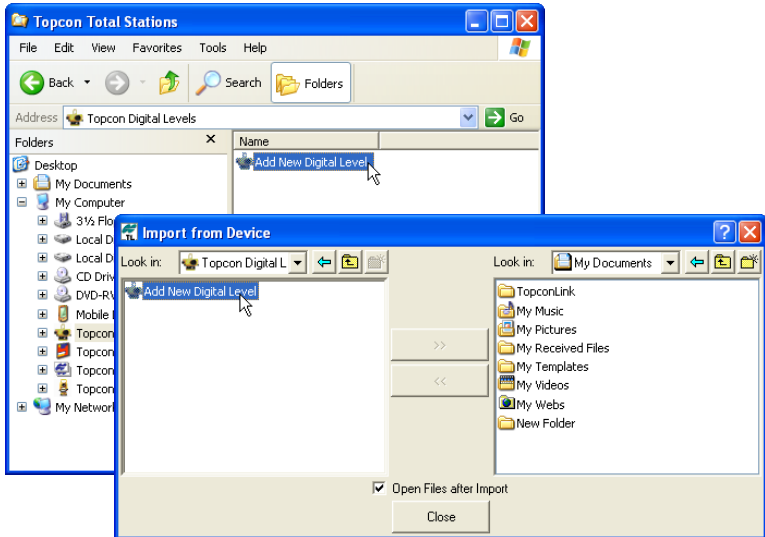

Figure 2-7. Add a New Digital Level
1. Navigate to the Digital Level device directory (Figure 2-7).
2. Double-click Add New Digital Level (Figure 2-7).
1. Navigate to the Memory Card device directory (Figure 2-7 on page 2-9).
2. Right-click the gray card icon and click Format (Figure 2-7 on page 2-9).
3. Click Format to format the flash card for access by Topcon programs (Figure 2-7 on page 2-9).